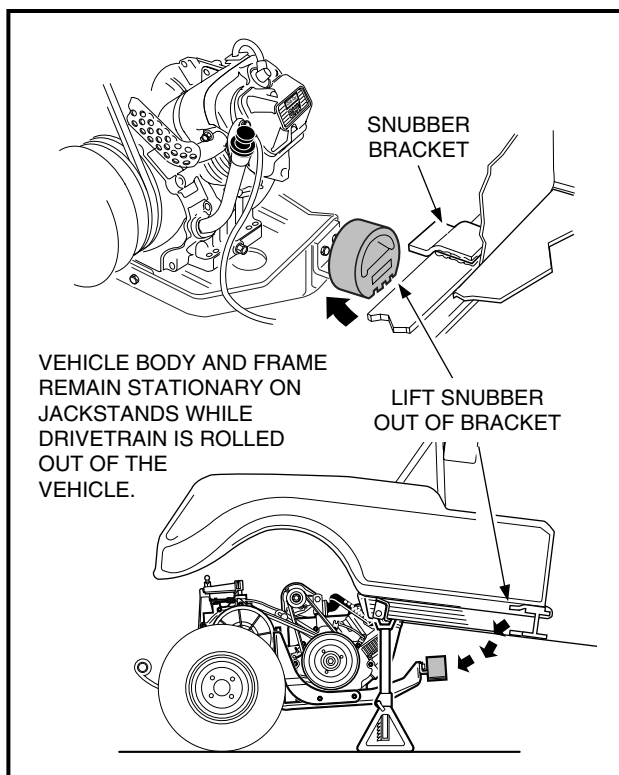

FIGURE 10-27
11. Lift the snubber out of the snubber bracket in the vehicle frame and lower it to the floor (**Figure 10-27**). Now the powertrain should be completely disconnected from the vehicle and resting on the floor.